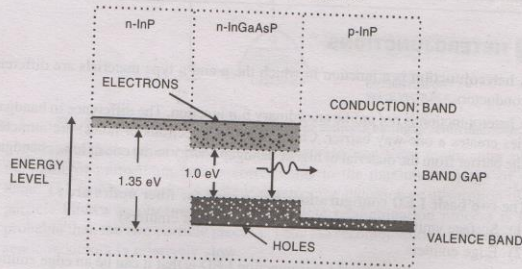

Fig. 7.5. Energy Bands in a Double Heterojunction.
**Double Heterojunction :** When a layer of material with a particular bandgap energy is sandwiched between layers of material with a higher energy bandgap a double heterojunction is formed. This is called a double heterojunction because there are two heterojunctions present—one on each side of the active material. The double heterojunction forms a barrier which restricts the region of electron-hole recombination to the lower bandgap material. This region is then called the **active region**. An energy diagram of a double heterojunction is shown in Fig. 7.5.